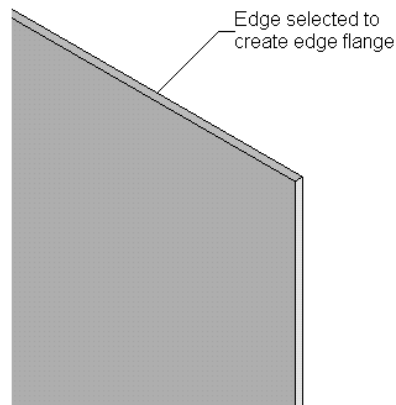

Figure 16-135 Edge selected to create edge flange
4. Select the edge of the base flange, as shown in Figure 16-135.